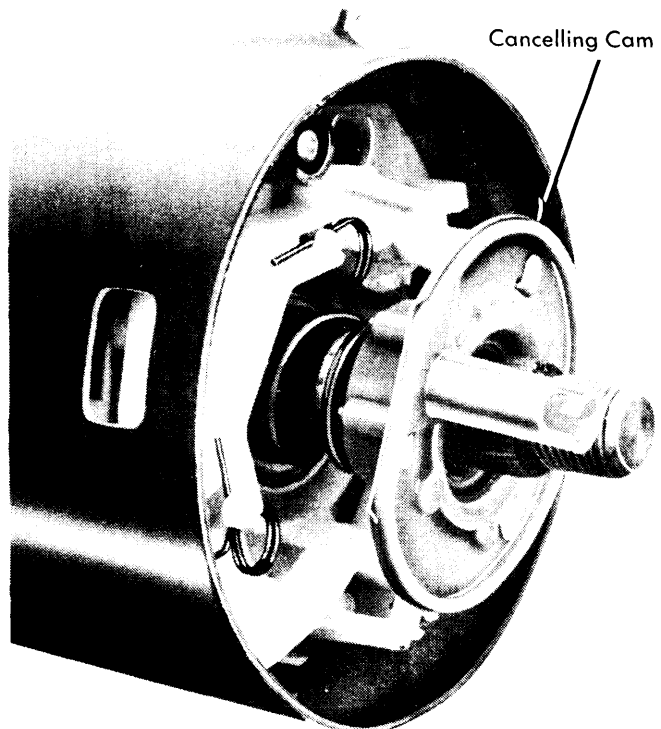

Fig. 7 Directional Signal Switch Cancelling Cam Position
12) Install thrust washer, upper bearing preload spring, and cancelling cam on steering shaft. Position cancelling cam as shown in illustration (see Fig. 7). Place directional signal switch in neutral position and install hazard warning switch knob.
2) Remove steering wheel. Using two screwdrivers, pry anti-theft cover off lock plate. Compress lock plate using a suitable compressor tool (J-23653) (see Fig. 7). Remove snap ring from steering shaft.